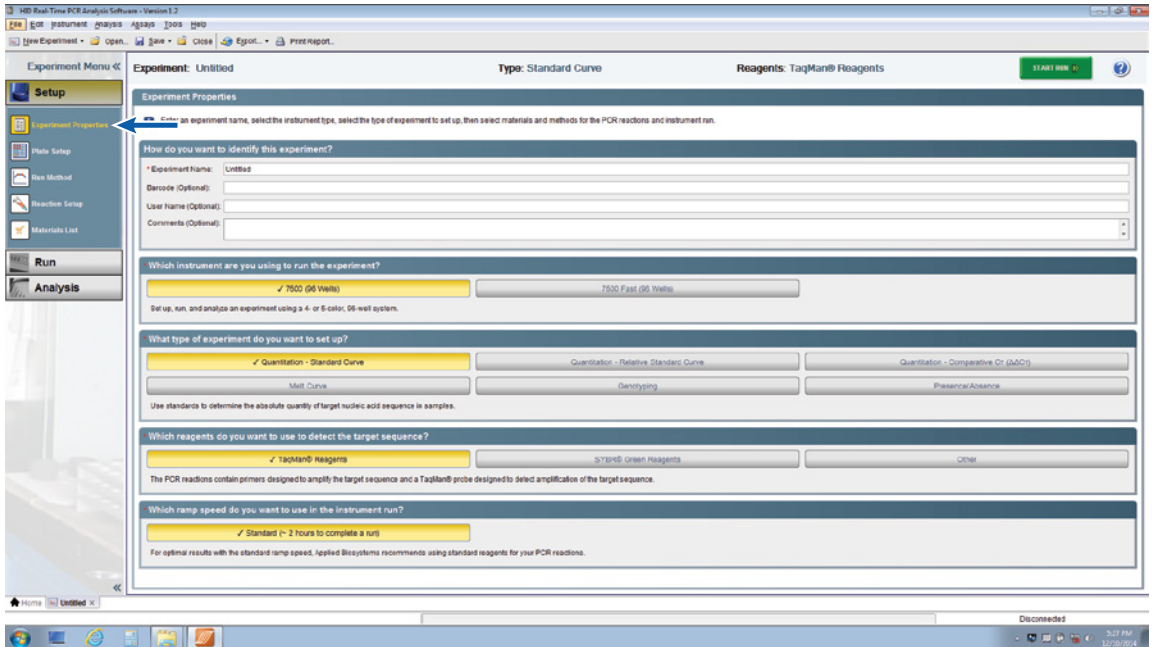

Figure 23. The Experiment Properties screen.
7. In the Experiment Properties form, specify the following parameters (Figure 23):